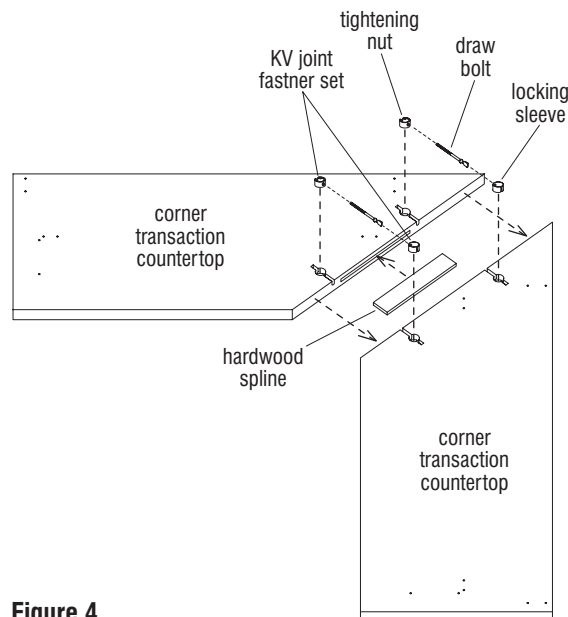

Figure 4
1. Place the two corner counter surfaces to be joined upside down on a soft protective surface. Position the surfaces as illustrated, then locate and identify the KV joint fastener components from the hardware pack (Figure 4).
2. Center the hardwood spline into the routed slot in one corner top to be joined. Press the two tops together, aligning the hardwood spline. Check to make sure the tops join together completely with the spline in place. If they do not, sand the spline if necessary or adjust its location in the slot (Figure 4).
3. Assemble KV fasteners by first twisting a draw bolt into each tightening nut a few turns, then press each pair into a $\frac{7}{8}$ " hole and slot in the underside of the transaction countertop surfaces to be joined. The flat-end of each draw bolt will be visible in the $\frac{7}{8}$ " hole on one side of the units being joined. One at a time, position each locking sleeve as illustrated and insert locking sleeves into the $\frac{7}{8}$ " holes so that the slotted sleeve engages the rounded collar on the bolt (Figure 4).
4. Tighten the nut with a tightening tool or a nail-set. Check the front and back edges, and more importantly the top side of the joint for proper alignment. The top-side joint should be smooth and level with no gaps. Adjust as necessary to achieve a "seamless" look (Figure 4).